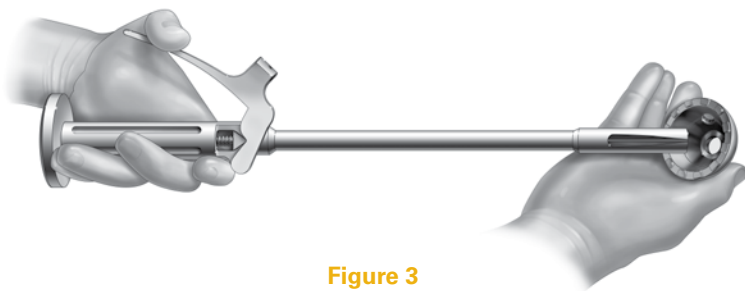

Figure 3
Step 2: Assemble the appropriately sized shell onto the Shell Impactor by squeezing the handle of the Shell Impactor and inserting the tip into the recessed area at the apex of the shell. Release the handle to engage the Shell Impactor (*Figure 3*). Note the position of the screw holes relative to the lever of the Shell Impactor.